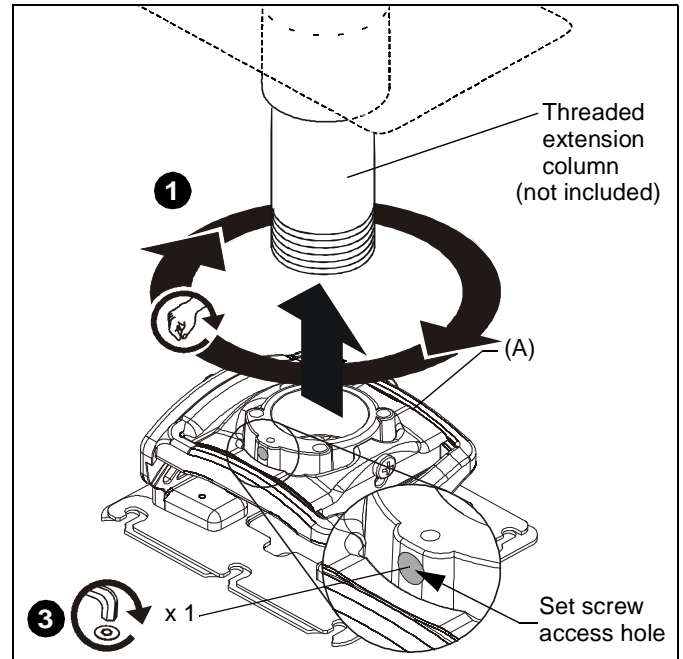

Figure 1
3. Secure RPMX to pipe by turning set screw until tight. (See Figure 1)